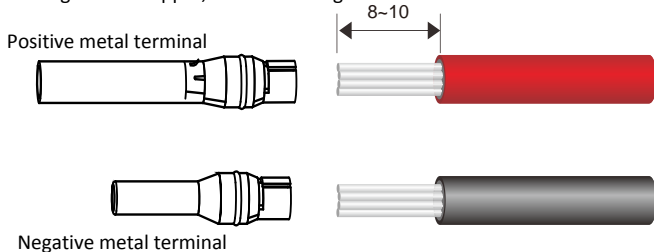

Figure 5.8 Stripping insulation from DC cables (unit : mm)
- Step 1 : Strip an appropriate length of the insulation from the positive and negative DC cables using a wire stripper, as shown in Figure 5.8.